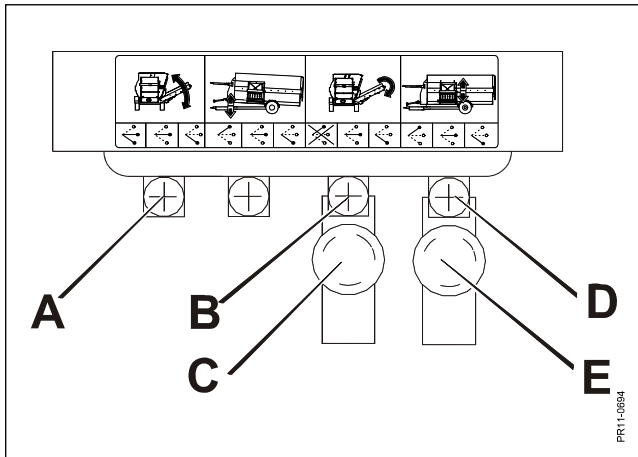

Fig. 5.11
Fig. 5.11 The elevator is folded out with the handle (A). See also fig. 12. However, it is not necessary to fold out the elevator completely to unload, but the elevator capacity will be reduced, when it is in a very steep position, so we recommend folding it down as much as possible.